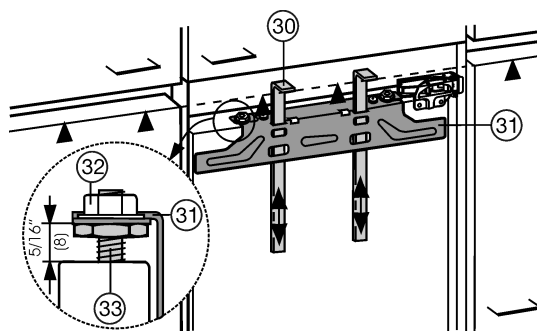

Fig. 25
The fitting aids Fig. 25 (30) are required for both doors. You must therefore fit the unit doors one after the other.
- ▶ Raise the fitting aids Fig. 25 (30) to the unit door height. Bottom stop edge ▲ of fitting aid = top edge of unit door to be fitted.